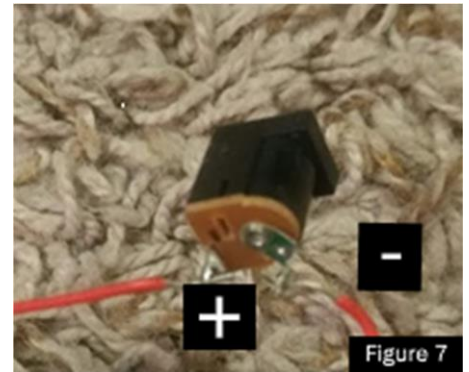

Figure 7
- a. Figure 7 demonstrates the positive and negative of one type of power jack. If your power jack is different, find a datasheet that matches on the internet.